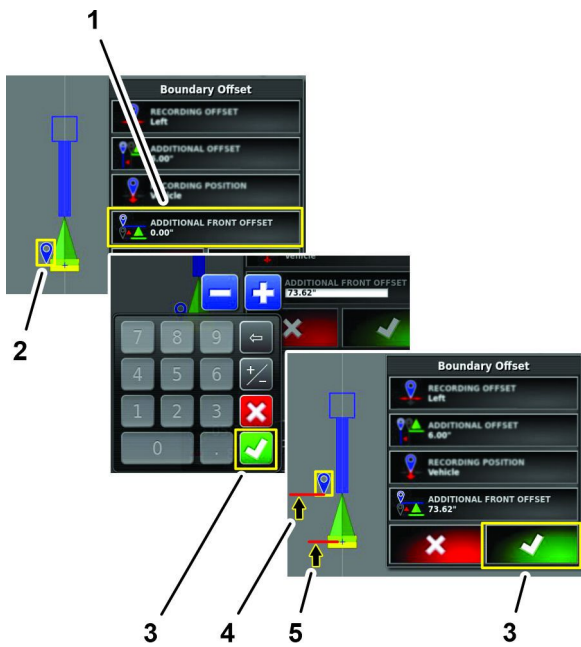

Figure 200
1. Press the ADDITIONAL FRONT OFFSET icon (Figure 200).
2. Use the on-screen keypad to enter the front-offset distance, and press the confirm icon (Figure 200).